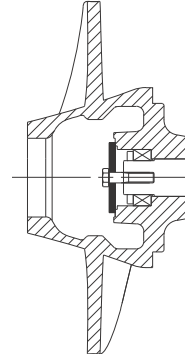

Fig. 104 Mount of propeller/impeller
1. Fit the propeller (pos. 49).
3. Force the propeller into position using a rectangular piece of metal in order to make sure that the impeller is mounted correctly. See fig. 104.
1. Mount the water chamber (pos. 77) and fit the screws (pos. 26a) and tighten them according to section 7. *Tightening torques and lubricants*.
2. Mount the intermediate ring (pos. 110) and the O-ring (pos. 110a).
3. Fit the impeller (pos. 49).
5. Force the impeller into position using a rectangular piece of metal in order to make sure that the impeller is mounted correctly. See fig. 104.